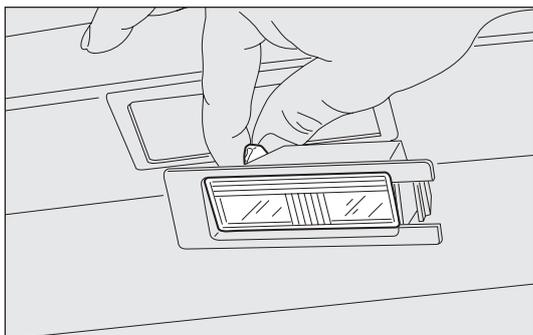

fig. 174
- change the bulb fig. 174 by releasing it from the side contacts and making sure the new bulb is correctly fastened between these contacts;